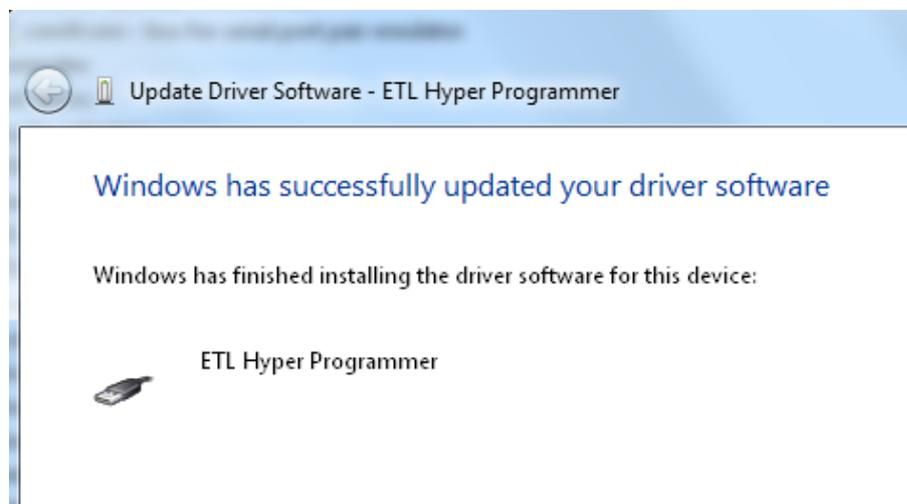

Figure 11. The "ETL Hyper Programmer" device successful installation
- Finally, you will see the driver installation confirmation for the second device. (Figure 11).